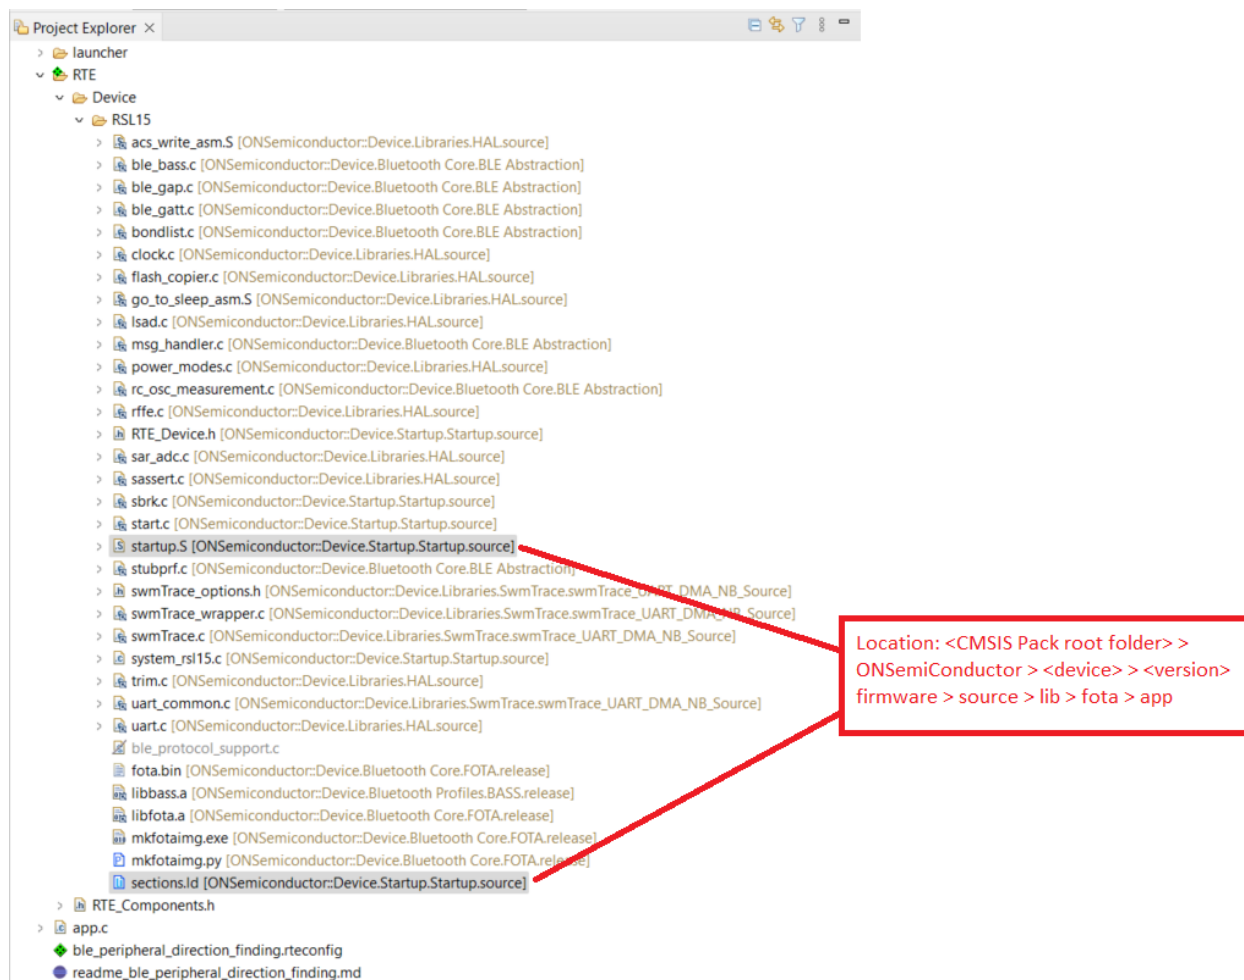

Figure 17. Replacing the sections.ld and startup.S Files
6. Replace your linker script `sections.ld` file with the one that contains the FOTA placement, and also replace your `startup.S` file, as shown in the "Replacing the sections.ld and startup.S Files" figure (Figure 17). The new linker script and `startup.S` file can be copied from *ble\_peripheral\_server\_fota*, or directly from the CMSIS-Pack root folder as follows: